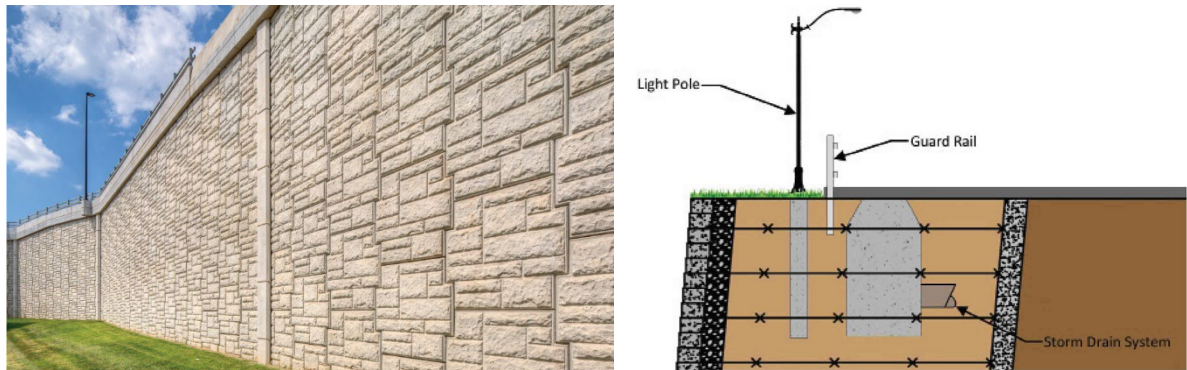

Figure 1: Examples of MSE walls
- Background** – MSE walls have roots to prehistoric builders who used sticks and branches to reinforce soil structures. The modern use of reinforced soils dates to the 1960s and French architect Henri Vidal's development of the Reinforced Earth® system. In the US, the first MSE wall was built on California SR-39 near Los Angeles in 1971. Sometimes the construction of MSE walls must account for underground utilities, tunnels or other obstructions (Figure 1). This year's competition will model these obstructions requiring teams to design and construct an MSE wall around a proposed tunnel.